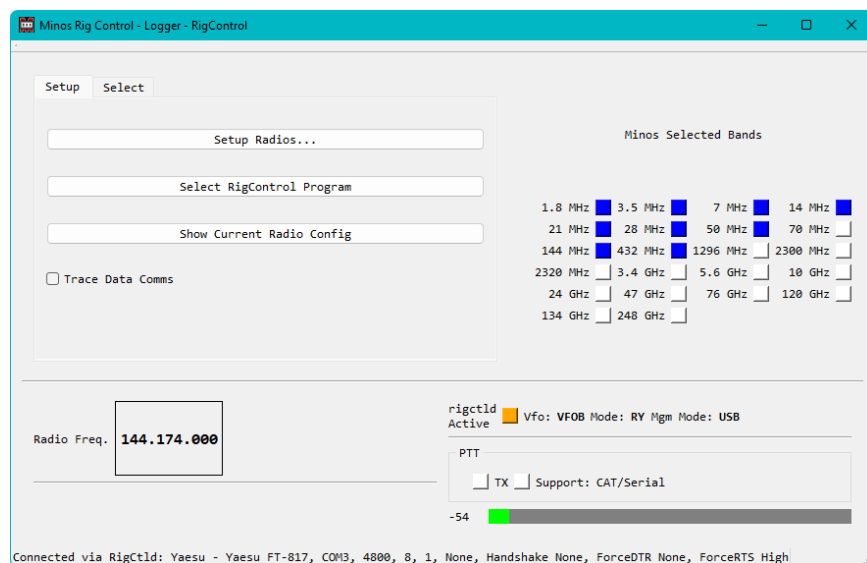

Figure 97 – RigControl operational
- **“Signal Meter”** enables the display of signal level in the RigControl panel (see Figure 97)
A status line at the bottom left of the panel (Figure 97) shows the Connected/Disconnect status⁸¹, and which radio has been selected, with what CAT configuration⁸².